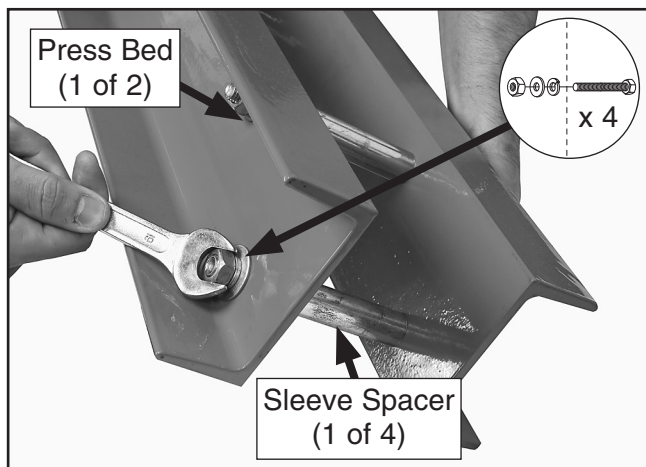

Figure 9. Assembling press bed.
9. Assemble bed with (4) sleeve spacers between bed sides and secure together with (4) M10-1.5 x 130 hex bolts, 10mm lock washers, 10mm flat washers, and M10-1.5 hex nuts, as shown in **Figure 9**.